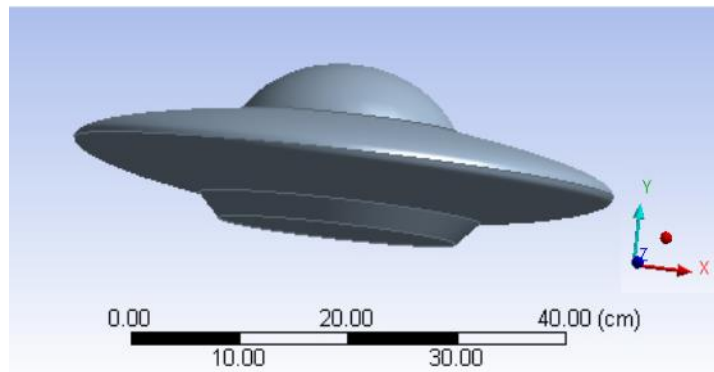
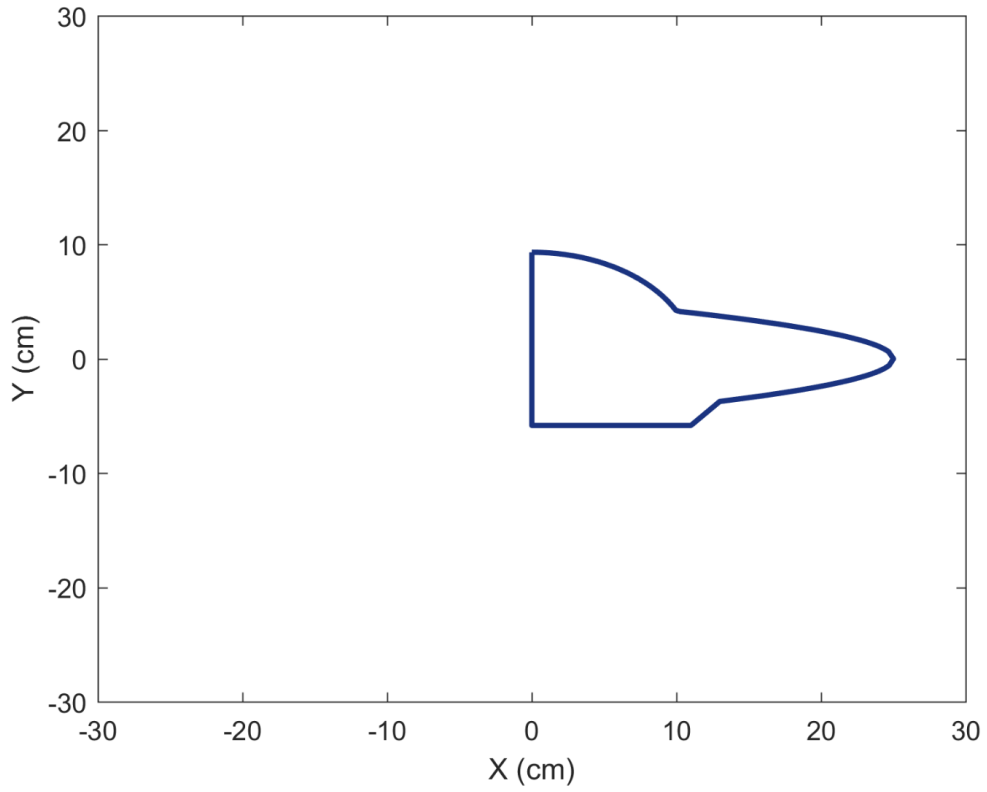
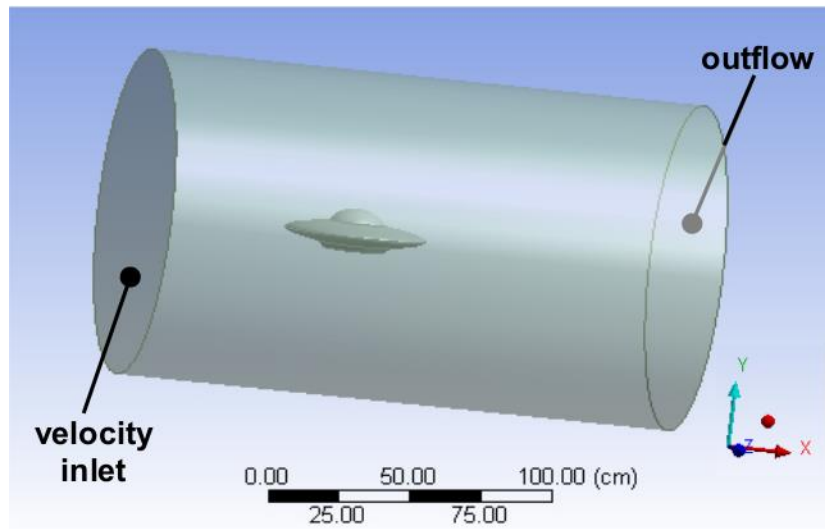
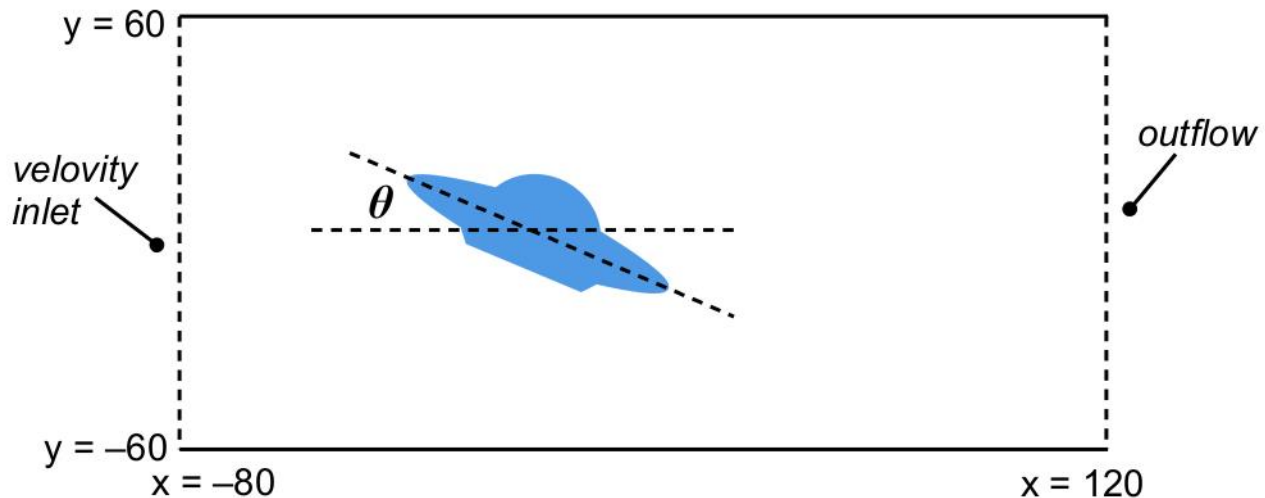

Fig. 3 The geometry of the “flying saucer”.
Fig. 4 The profile of the "half 2D flying saucer". The detailed data is in `flyingsaucer2DH.txt`.
Fig. 5 The setup of the 3-D virtual wind tunnel.
Fig. 6 The dimension (in cm) of the cylindrical virtual wind tunnel along its plane of symmetry, and the definition of the tile angle.
In this task, we test the aerodynamics of a 3-D “flying saucer” in a cylindrical virtual wind tunnel. The 3-D object is shown in Fig. 3. It can be created by **setting unit to “cm”**, reading the profile data in the file, "flyingsaucer2DH.txt", to create a curve (as shown in Fig. 4), then revolving that curve around the y -axis to build the full 3-D surface. The setup of the virtual wind tunnel is as illustrated in Fig. 5. The tunnel is filled with air with constant density and viscosity (using default properties from Fluent database). It has two openings which will be set up as *velocity inlet* and *outflow*, as indicated in Fig. 5. All other surfaces are walls. The detailed dimension (in cm) of the system is given in Fig. 6. (It suffices to show the cross section along the plane of symmetry, but remember that the system is fully 3-D.) The radius and length of the cylindrical tube are 60 cm and 200 cm, respectively. The precise x and y coordinates of the corner points are given in Fig. 6. Note that the flying saucer is placed closer to the inlet than the outlet. A tilt angle, θ , is also defined in Fig. 6. It is the angle of rotation of the 3-D object with respect to the z -axis. The configuration shown in Fig. 5 corresponds to the case with $\theta = 0^\circ$.
- (iii) A line plot of the *lift force* and *drag force* (that the fluid exerts on the flying saucer) as a function of the tilt angle. This is a simple plot with two curves, each represents just four data points. (For this plot, please use the total force, i.e., the sum of the contributions from pressure and viscous terms. No need to split the two terms.) For this system, lift and drag are the forces in the y -direction and x -direction; See Fig. 6 for the definitions of those directions.